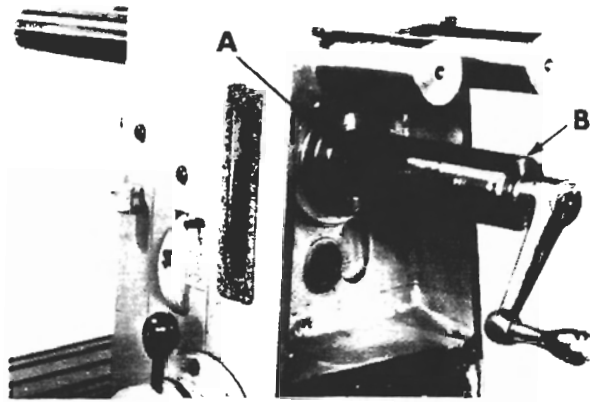

Figure 27
1. Use special puller sleeve (B, fig. 27) to draw bearing cups (A) into column.